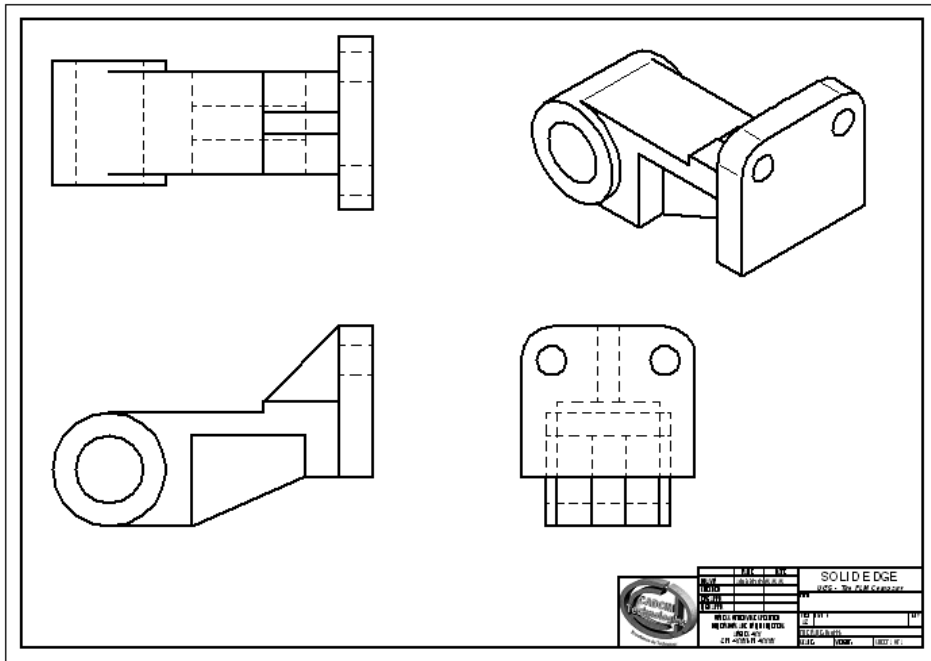

Figure 12-36 Sheet after generating all drawing views
- Generate the drawing views, refer to Figure 12-36.
10. You can move the views on the sheet by dragging them. Arrange all views as they are shown in Figure 12-36.